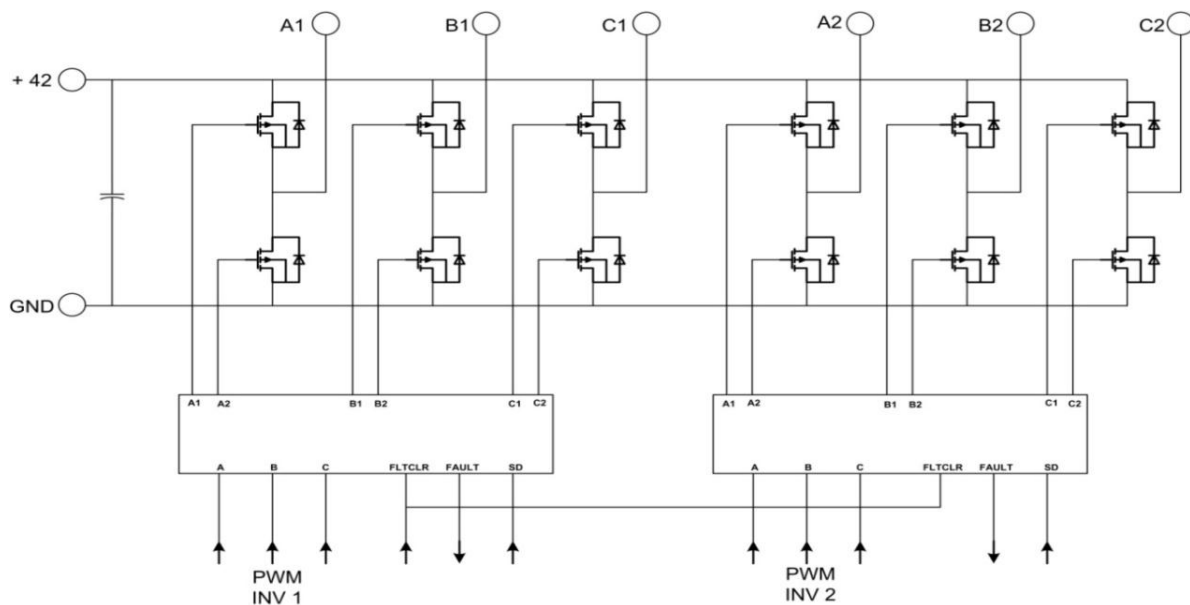
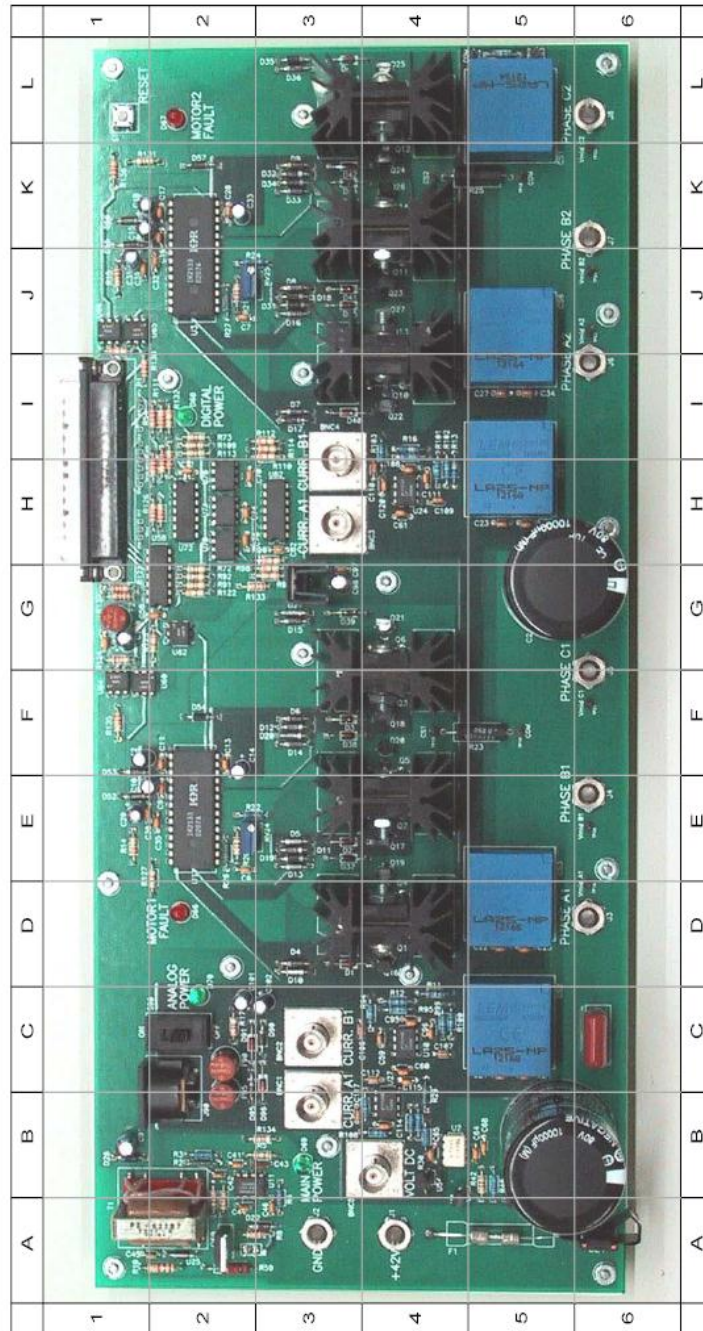
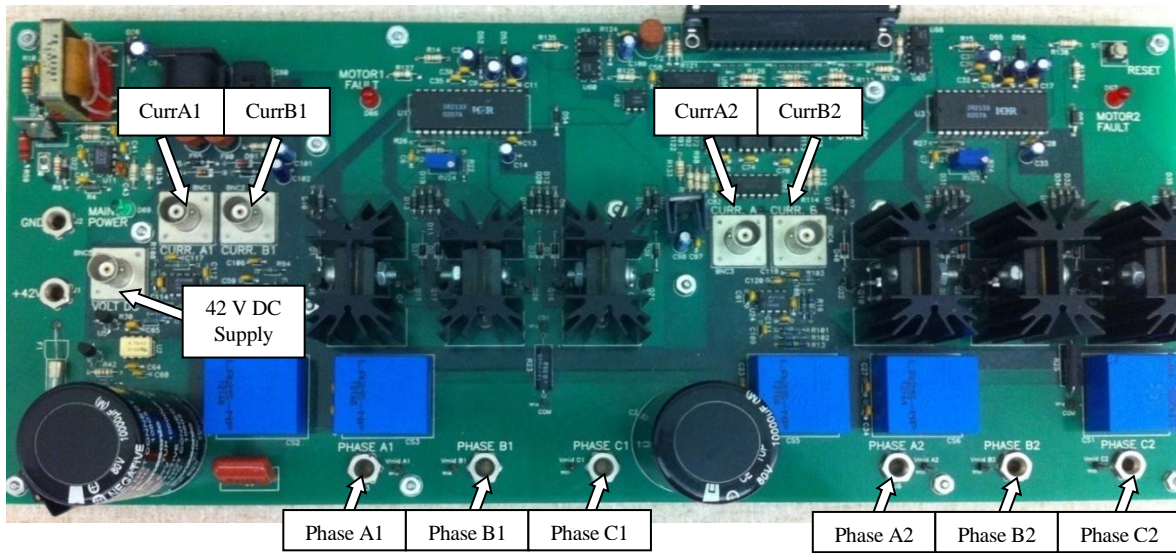

Figure 1: Block Diagram of Electric Drives Board
Figure 2: Power Electronics Drives Board
Figure 3: Power Electronics Drives Board (with key lables)
The basic block diagram of drives board is shown in Fig. 1 and the actual drives board is shown in Fig. 2. Please note that various components on this board are indicated in Table. 1.
The board of Fig 2 is shown with some additional labels in Fig 3. The two independent three phase PWM voltage sources labeled phases A1, B1, C1 and phases A2, B2, C2 in Fig 1 are obtained from a constant DC voltage source (as shown in Circuit in Fig 1). Hence two machines can be controlled independently for independent control variables, at the same time. A single phase motor needs only Phase A1 B1 for powering while three phase motor needs three phases A1, B1, C1.
The location of some key supply and measurement points are shown with labeling in Fig 3. The board provides the motor phase currents (currA1, currB1, currA2, currB2), dc-bus voltage (shown to left of Curr A1) as in Fig 4 to control the motor for a desired speed or torque.
Each 3-phase inverter uses MOSFETs as switching devices. The 3-phase outputs of the first inverter are marked A1 (D-6 in Fig. 2), B1 (E-6 in Fig. 2), C1 (F-6 in Fig. 2) shown with labels at bottom of Fig 3, and those of the second inverter are marked A2 (I-6 in Fig. 2), B2 (K-6 in Fig. 2), C2 (L-6 in Fig. 2).
± 12 volts signal supply is required for the isolated analog signals output from the drives board. This is obtained from a wall-mounted isolated power supply, which plugs into the DIN connector J90 (B-2 in Fig. 2). Switch S90 (C-2 in Fig. 2) controls the signal power to the board. The green LED D70 (C-2 in Fig. 2) indicates if the signal supply is available to the board. Fuses F90 (C-2 in Fig. 2) and F95 (B-2 in Fig. 2) provide protection for the +12 V and -12 V supplies respectively. Please note that the green LED indicates the presence of only the +12 V supply. Please note that turning off S90 will not stop the PWM signals from being gated to the inverters. The power supply for the 3-phase bridge drivers for the inverters is derived from the DC Bus through a flyback converter (A-2 in Fig. 2).
Test points are provided to observe the inverter output voltages. BNC connector VOLT DC Fig 5 and (located at B-4 in Fig. 2) has been provided to sense the DC bus voltage. To measure the DC bus voltage,
- Connect BNC connector to CURR A1 (B-3 in Fig. 2).
- Connect BNC connector to CURR B1 (C-3 in Fig. 2).
- Connect BNC connector to CURR A2 (H-3 in Fig. 2).
- Connect BNC connector to CURR B2 (I-3 in Fig. 2).
The inverters (Fig 1) are driven by 3-phase bridge drivers (IR2133). The PWM inputs are isolated before being fed to the drivers.
PWM and other digital signals for the board are to be given to the 37-pin DSUB connector in Fig 6 (and located at H-1 in Fig. 2). For pin-out description of this connector, see Table 2.
Shown in Fig 7, the Drives Board has over-current protection for each inverter. An over-current fault occurring on inverter 1 is indicated by red LED “MOTOR FAULT 1” (D-2 in Fig. 2), while that of inverter 2 is indicated by red LED “MOTOR FAULT 2” (L-2 in Fig. 2). Each time a fault occurs, reset the fault using the “RESET” switch (L-1 in Fig. 2) on the board. The switch resets all the faults.